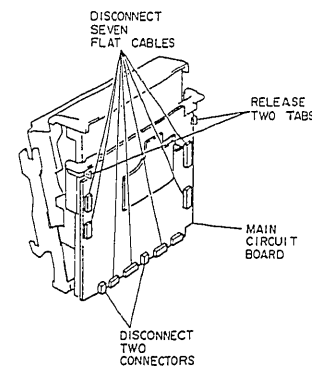
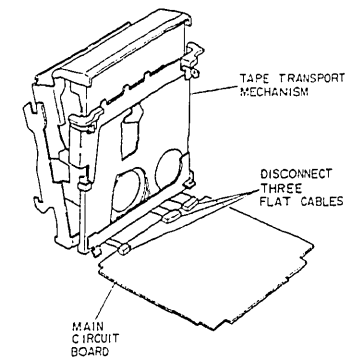

Fig. 2-10
Fig. 2-11
- 1) Disconnect two (2) connectors (CN212, CN904) on the main circuit board. (See Fig. 2-10)
- 2) Disconnect seven (7) flat cables (CN211, CN613, CN903, CN905, CN907, CN909, CN921) on the main circuit board.
- 3) Release two (2) tabs and open the main circuit board.
- 4) Disconnect three (3) flat cables (CN612, CN614, CN906) on the main circuit board and remove the main circuit board from the tape transport mechanism. (See Fig. 2-11)